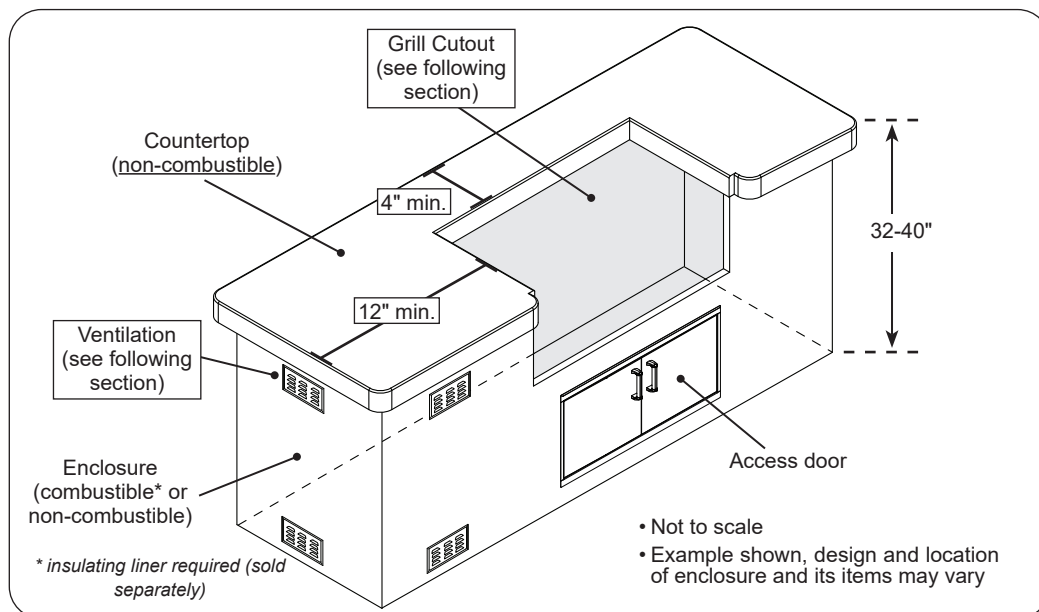

Fig. 7-1 Enclosure specifications
The enclosure can be constructed according to your individual preference, while following all guidelines found in this manual. **The enclosure MUST (see Fig. 7-1):**
- have the minimum dimensions specified in Fig. 7-1
- meet all requirements found in Fig. 7-1 and the following sections